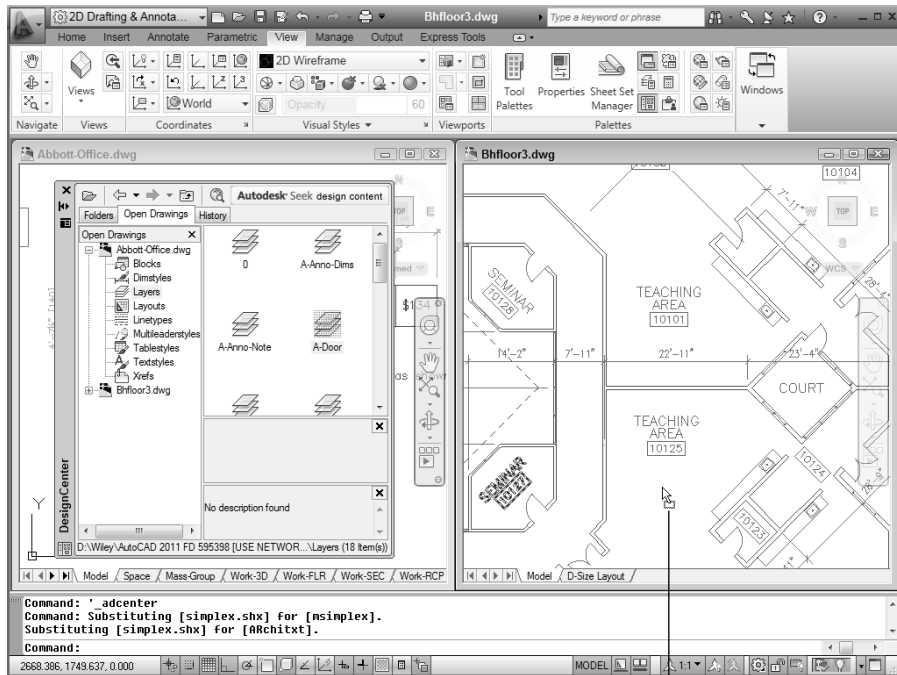

Figure 6-11:
If you already had both drawings open, make sure that you can see the destination drawing. If you can't, click Switch Windows in the View tab's Windows panel and choose the destination drawing in order to bring it to the foreground, or tile the windows, as shown in Figure 6-11, by clicking Tile Vertically in the same Windows panel.
7. Click and drag the desired layer or layers from the content pane of the DesignCenter palette into the window containing the destination drawing that you opened in Step 2, as shown in Figure 6-11.